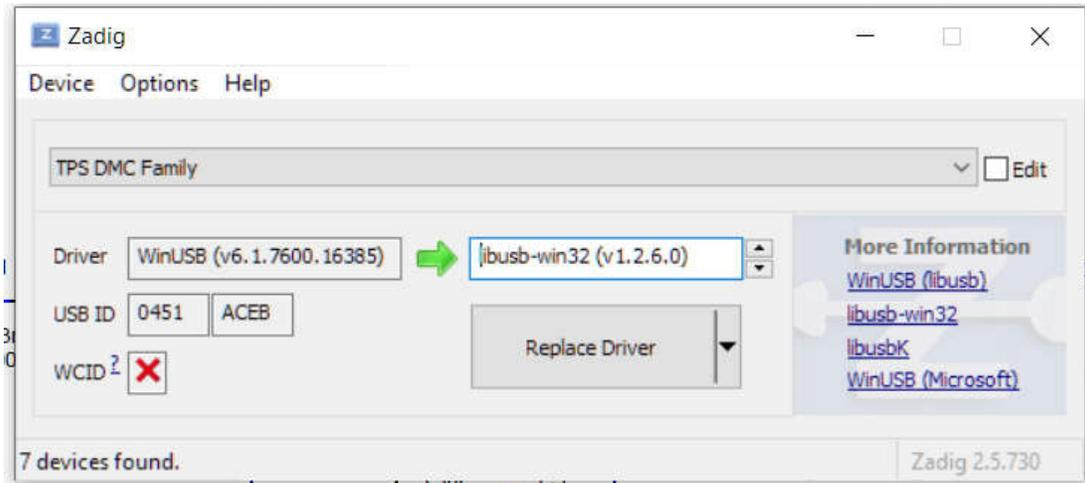

Figure 5-10. Zadig USB Driver Installer Dialog Window
2. Download then run the Zadig executable, then choose the libusb-win32 option (see Figure 5-10).